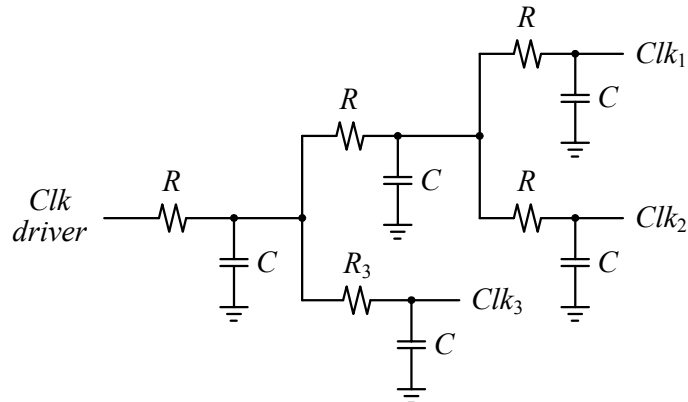

Fig. 3: RC network.
a. (8 pts) Consider RC network shown in Fig. 3.
b. (6 pts) Assume that the resistances in Fig. 3 are voltage-dependent: $R = 0.8 R_0 / (V_{DD} - V_{TH})$, where R_0 is the nominal value at $V_{DD} = 1V$, and $V_{TH} = 0.2V$.